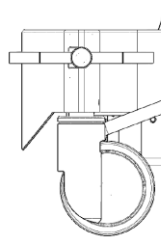

Figure 21
1. Press the wheel-block pedal down to unblock the locked wheel (see Figure 21); the locked wheel is now unblocked and the shower trolley can be moved in all directions.
- Unlock the brake pedal of wheels (Figure 21)